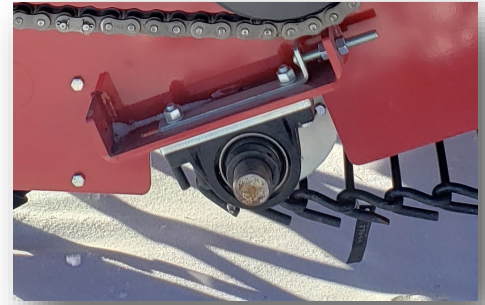

Figure 7-19: Apron Chain Front Idler Shaft
3. Adjustments on the apron chain tension are made by moving the front idler shaft, shown in Figure 7-19.